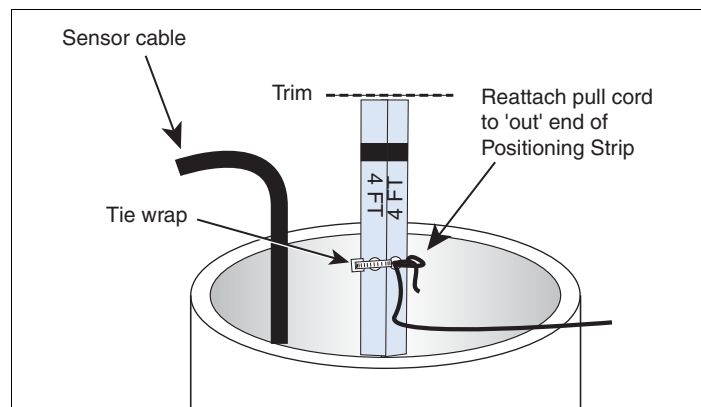

Figure 7.
5. For 4-, 6-, and 8-foot diameter tank installations, trim off the two ends of the Calibrated Sensor Positioning Strip above the matched markers. **IMPORTANT! Be sure to reattach the pull cord in the hole below the marker on the 'out' end of the strip** (Figure 7). Attach a tie wrap through the two aligned holes to keep the sensor in its correct position.